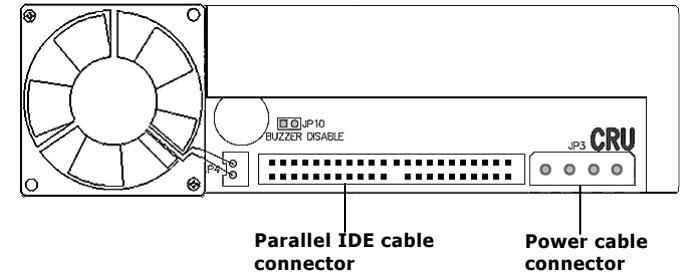

Figure 3 – Rear view of Parallel IDE DataPort
8. Locate the data cable and connect it to the connector on the rear of the frame (see Figures 3 and 4).